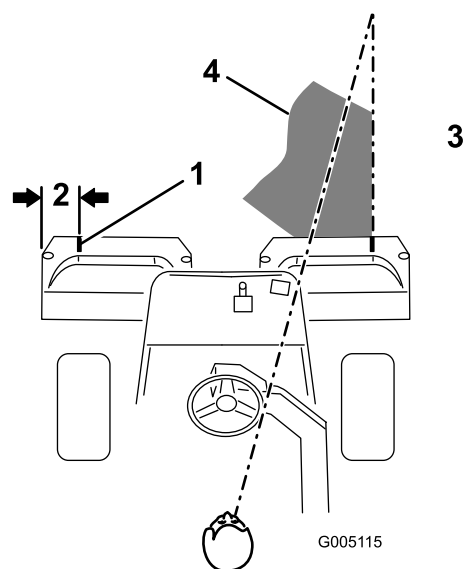

Figure 33
2. Either place a strip of white tape or paint a line onto each basket paralleling the outer edge of each basket (Figure 33).
3. Overlap a minimal amount with the previous cut on return passes. To assist in maintaining a straight line across the green and keep the machine an equal distance from the edge of the previous cut, establish an imaginary sight line approximately 6 to 10 ft (1.8 to 3 m) ahead of the machine to the edge of the uncut portion of the green (Figure 33 and Figure 34). Some find it useful to include the outer edge of the steering wheel as part of the sight line; i.e. keep the steering wheel edge aligned with a point that is always kept the same distance away from the front of the machine (Figure 33 and Figure 34).